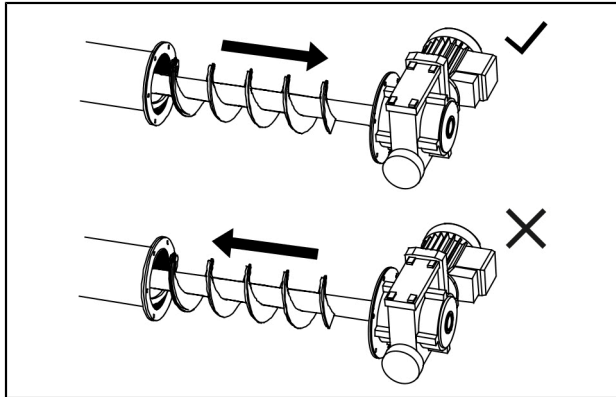

Fig. 3: Correct rotational direction of auger screw
- Check for correct rotational direction of the auger screw (motor direction, see "Fig. 3: Correct rotational direction of auger screw", page 63).